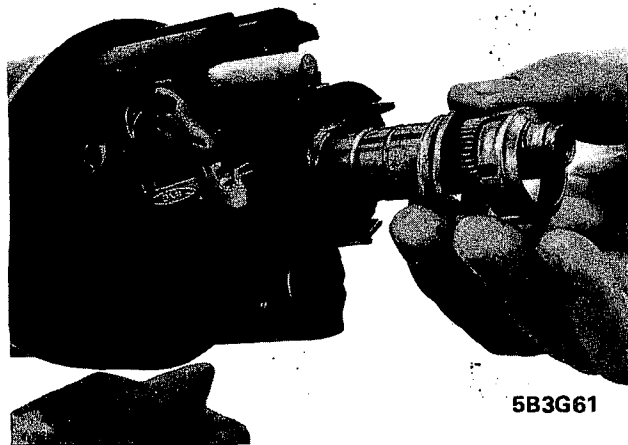

Figure 3G-61 - Race and Seat Removal
Insert a thin tool into the slot next to the switch mounting boss and depress retainer at bottom of slot. At the same time, pull lock cylinder from housing. Figure 3G-40.
9. The buzzer switch can be pulled straight out of the housing. A "straightened" paper clip or similar piece of stiff wire with a hook bent on one end should be inserted in the exposed loop of the wedge spring, then a straight pull on the wire will remove both spring and switch. (If the lock cylinder is not removed before the switch, it must be in the "on" position). Figure 3G-41.